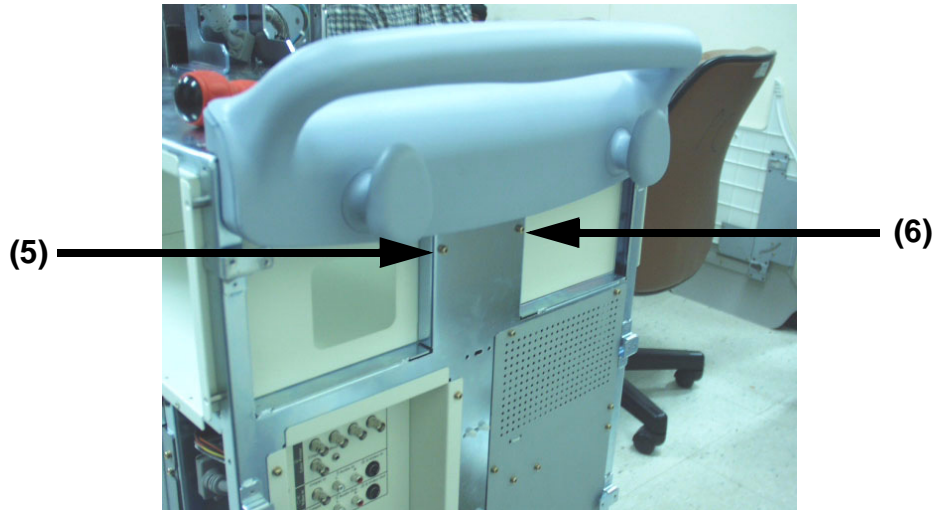

Figure 8-66 Unscrew two screws
- 6.) Unscrew two (2) screws (5-6) from the rear side of handle. Refer to Figure 8-66.